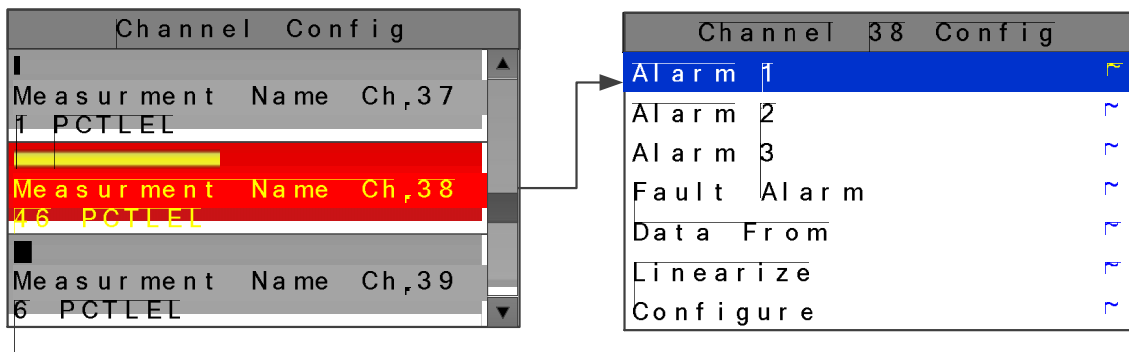

Figure 2-13
**CHANNEL CONFIGURATION** is accessed through the **MAIN MENU**. Once in the **CHANNEL CONFIGURATION** entry menu, show on left in Figure 2-13; use  /